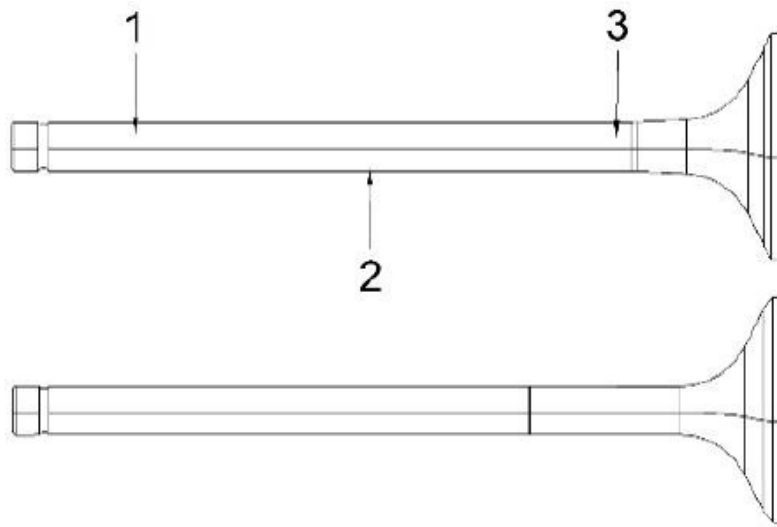

Figure 61. Valve Stem Diameter
3. Use a micrometer to measure the valve stem diameter. Measure the valve stem near the combustion end and near the opposite end (Figure 61). See Intake / Exhaust Valve and Guide chart for the service limit.